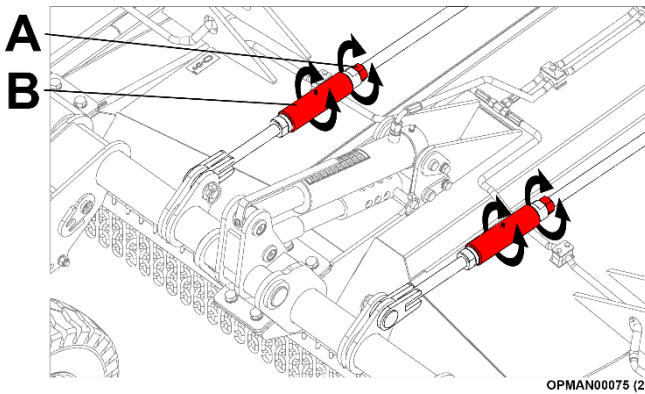

Figure 4.20 – Tie Bar Adjustment
- 4.7.1.3 Loosen the locking nuts and then turning the barrel nut on the adjustable tie bars; see Figure 4.20 (A)
- 4.7.1.4 Once set at the desired height tighten the locking nuts once again; see Figure 4.20 (B).